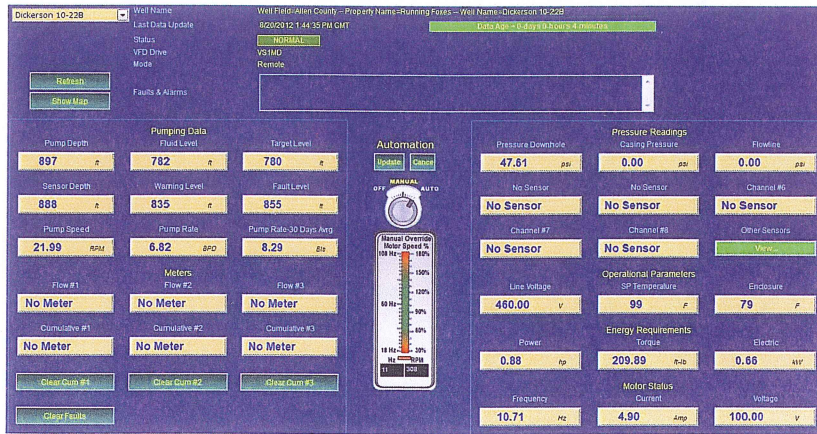

Figure 1. Data retrieved from the online dashboard of a well in Kansas.
- Figure 1 shows the data retrieved from the online dashboard of a well in Kansas. It gives information regarding the number